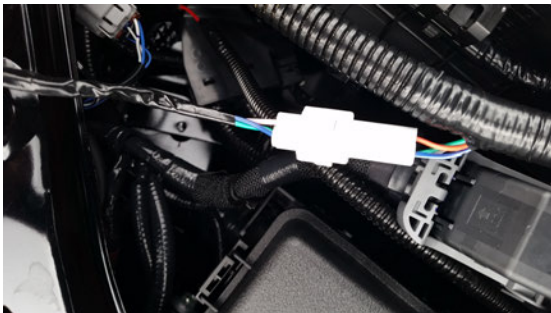

Figure 20
14. Plug T-harness into main harness (Figure 20).